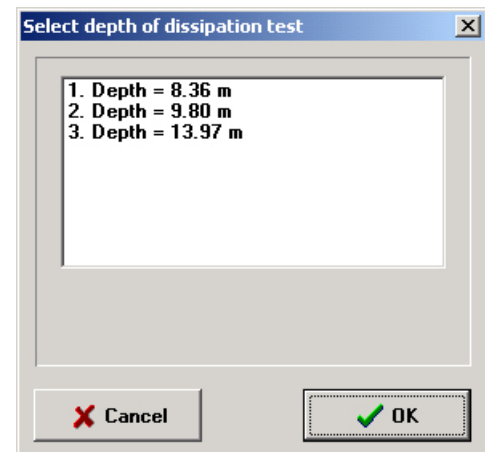

Fig 4-15: Selection of dissipation test to be displayed
3. **Dissipation tests** are accessed under the Graph Menu (Fig. 4-15) and an example is shown in Fig. 4-16.